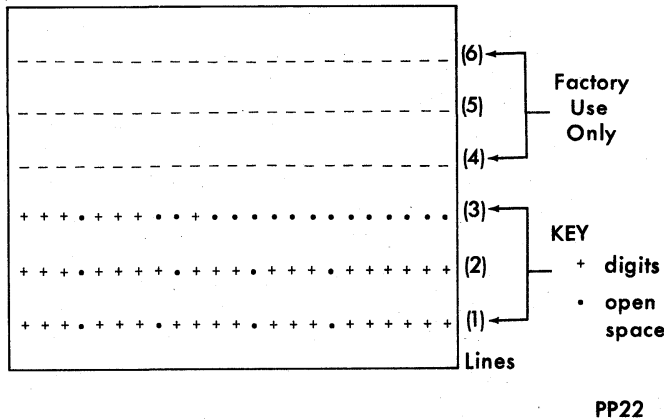

Fig. 10—Body Code Plate
engine code, transmission code, time code, trim code and paint codes (Fig. 10).
To understand the Code Plate shown in (Fig. 10) notice six (6) rows of digits are on the plate. Starting with Line #1 (the bottom line on the plate). The information reads from left to right.